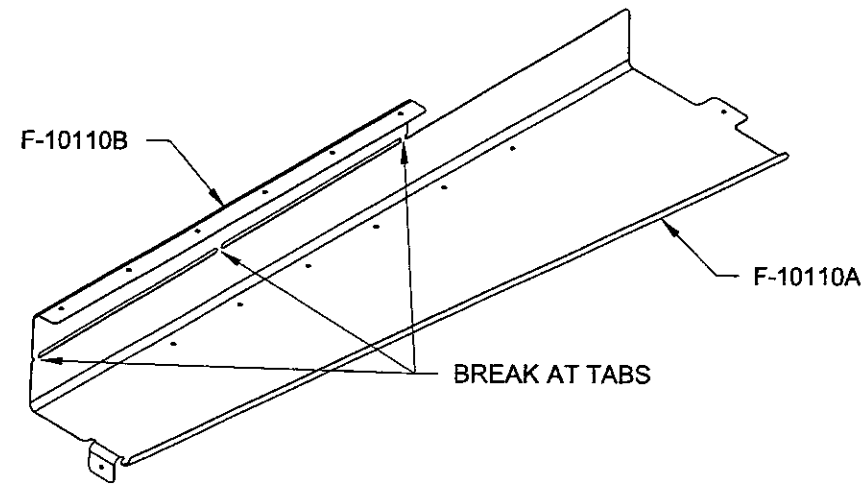

FIGURE 1: SEPARATING WIRE COVER PARTS
Step 1: Separate the F-10110A Wire Cover and the F-10110B Clip as shown in Figure 1 then deburr.
Remove the F-1015D-L Mid Cabin Side Cover. Deburr the holes in the mating parts. Machine countersink the bulkhead side channel and dimple the mid cabin side cover for the hardware called out on Page OP37-17, Figure 1.